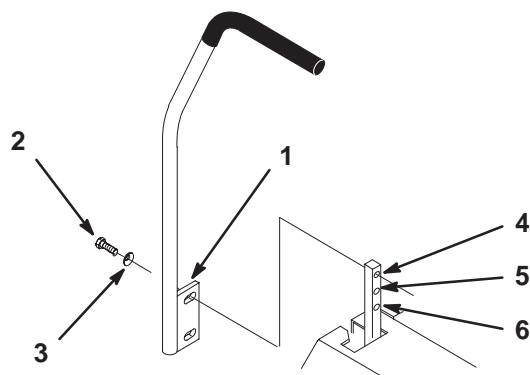

Figure 4
There are two positions to install the control levers, high and low. Install levers in the top and middle holes for the high position. Install levers in the middle and bottom holes for the low position (Fig. 4).
1. Remove the 4 bolts (3/8 x 1 in.) and 4 spring washers (3/8 in.) which attach the motion control levers to the control arm shafts for shipping (Fig. 4).
2. Place the levers (with the mounting plate toward the rear) on the outside of the control arm shaft and secure with 4 bolts (3/8 x 1 in.) and 4 spring washers (3/8 in.) (Fig. 4).
4. Align the front/rear position of the levers, with each other, in the neutral position. Loosen hardware and adjustment by sliding/tilting the lever(s) forward or backward until properly aligned (Fig. 4).